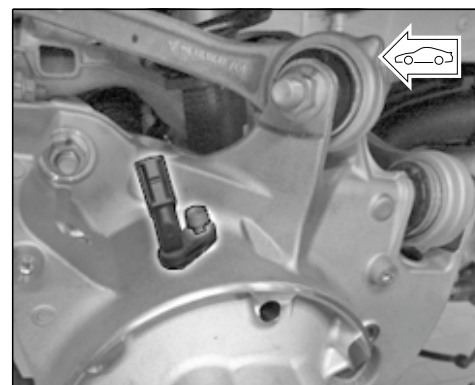

Figure 11
2.1.9 Remove rear speed sensor (at the left ⇒ *Figure 11* /right) (⇒ *Workshop Manual '451519 Removing and installing rear speed sensor'*)